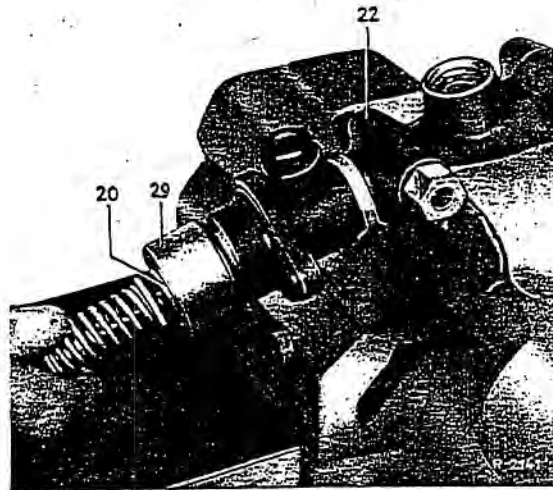

Fig. 42-3a/23
- Insert the fitting sleeve (29) in the housing (22).
**Note:** The fitting sleeve can be made of light metal in the shop in accordance with the dimensions given in Fig. 42-3a/24.